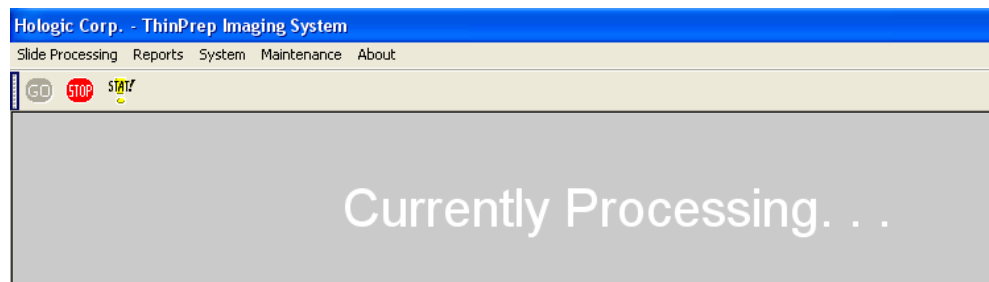

Figure 3-25 Slide Processing Resumed
3. The doors will lock. The display on the monitor indicates that processing has begun. The **STOP** button on the menu bar is highlighted as available. (Refer to Figure 3-25.)